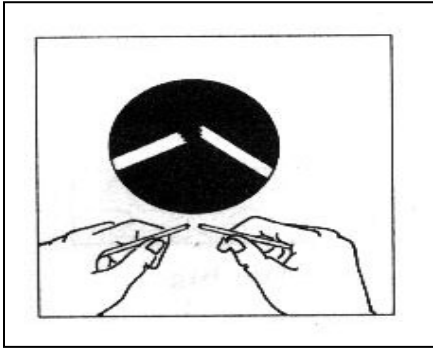

Fig. 6
- Break a wooden stick into two pieces with rough ends (Fig 6)